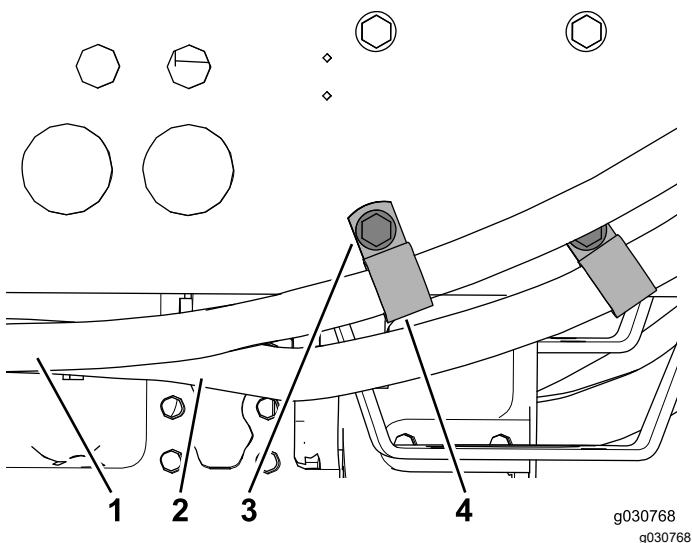

Figure 42
5. Install 1 R-clamp around each air-conditioning hose and use the 2 existing bolts to secure them to the machine frame (Figure 42).